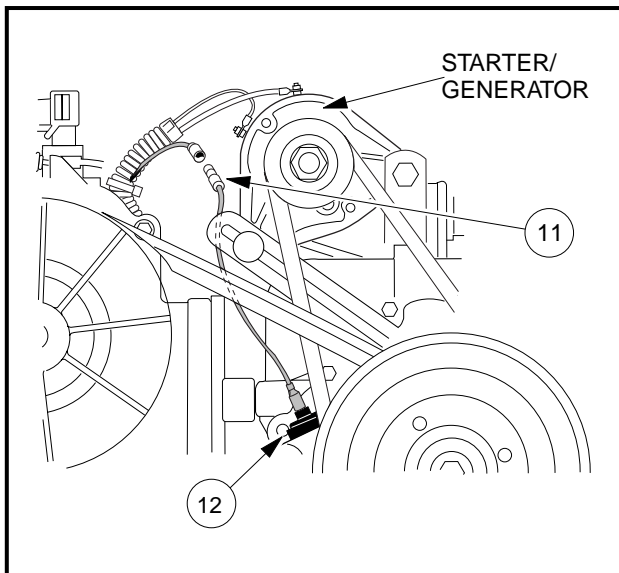

Figure 13-46 Oil Level Sensor Wire
1. Remove yellow jumper wire (11) from cord connector (12) **(Figure 13-46, Page 13-24)**.